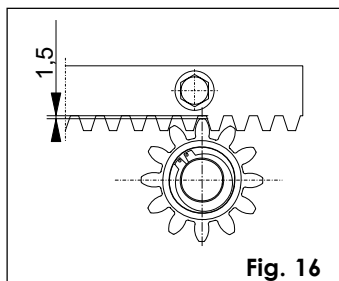

Fig. 16
- When you have finished installing the rack, adjust the distance between the pinion teeth and the rack groove, checking if the distance is 1.5 mm (Fig. 16) along the entire travel.